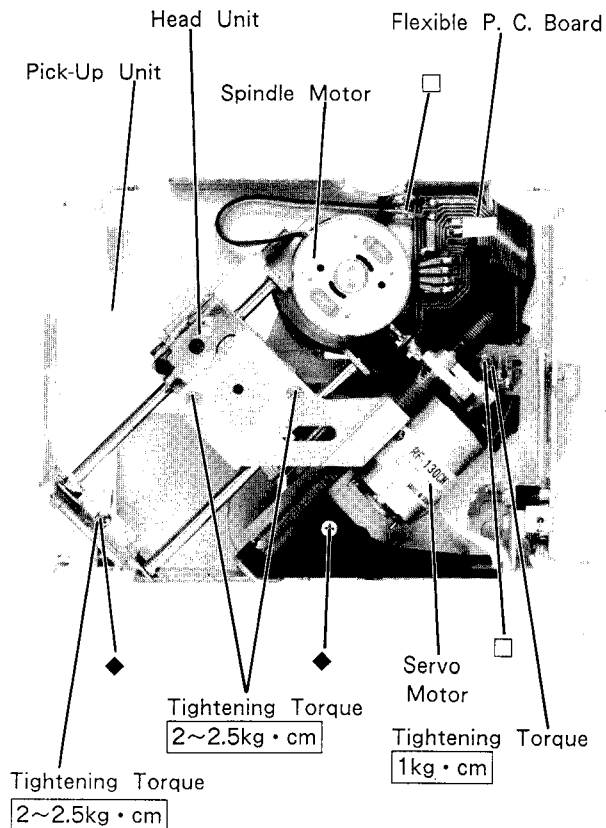

Figure 16
(1) After removing the Rivet Loading Bracket Assembly, remove the two screws marked with "□" as shown in Figure 16.
(1) After removing the Servo Motor, remove the two screws marked with "◆" as shown in Figure 16.